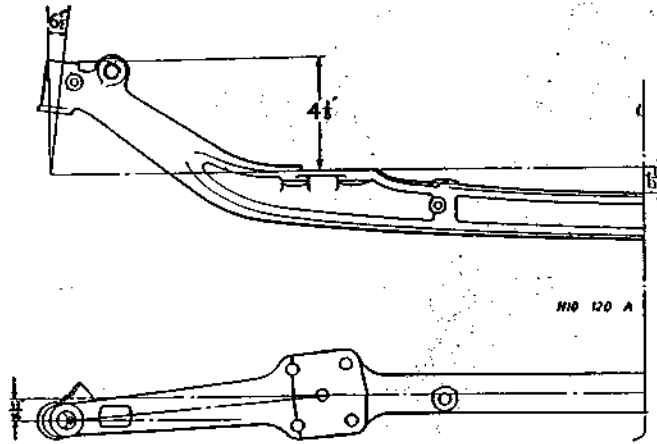

Fig. 5.
**Swivel Pin Inclination.** This can only be checked with a special gauge, or after the axle has been removed. The inclination is shown in Fig. 5 and is  $6\frac{1}{2}$  degrees.